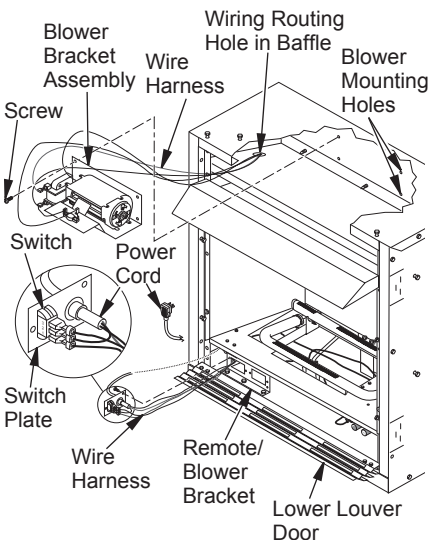
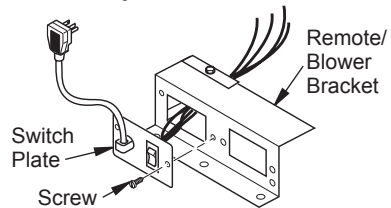

Figure 14 - Installing Blower Bracket Assembly (Remote-Ready Unit Shown)
Figure 16 - Installing Switch Plate to Remote/Blower Bracket
3. Note the wire locations on back of AUTO/OFF/ON switch. The terminals on back of switch are numbered 1, 2, and 3. Carefully remove red wire from terminal 3 and blue wire from terminal 1. Black wire can remain on middle terminal 2 (see Figure 14).
5. In top of the fireplace cabinet, locate the four mounting holes on the outer casing. Align these four holes with those on the blower bracket assembly. Attach blower bracket assembly to the outer casing with 4 #10 screws provided (see Figure 14).
7. Insert the 4 wire harnesses from behind the remote/blower bracket through hole in rear of bracket with bushing and through the left rectangular hole to front of fireplace (see Figure 14).
9. Install the switch plate on the remote/blower bracket with 2 #10 screws provided (see Figure 16). Route power cord out of the cabinet by inserting it through the bushing on the outer casing (see Figure 14). Plug fan kit into 120-Volt grounded power supply and test operation. *Note:* When switch is in the AUTO position, the fan will start after the fireplace has run for a few moments. The fan will continue to run for several moments after the fireplace has been turned off. When switch is in the ON position, the fan will run until turned to OFF.